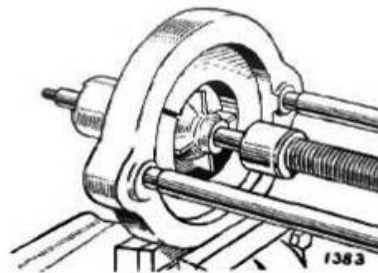

Fig. 11. Removing impeller from pump spindle
1. Remove items (17) and (18) and detach the pulley (21).
2. Use Churchill Tool No, FTS.127 with Press S.4221A to remove the impellor (31) and seal assembly (30). (See Fig. 11.)
3. Remove the circlip (23) and drift out shaft and ball race assembly.
4. Remove the spinner (27), circlip (26), washer (14) and Woodruff key (13) from the shaft (28) and press off items (24) and (25).